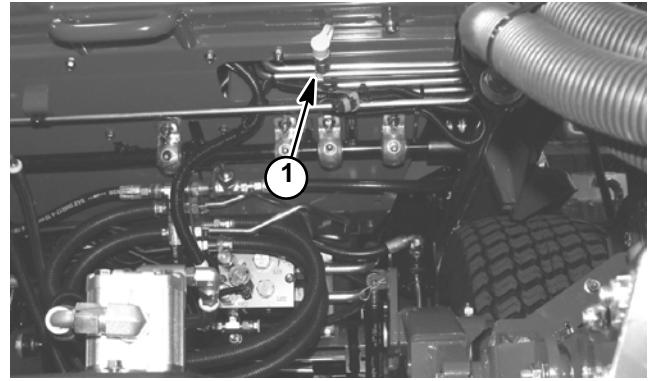

Figure 44
3. Connect a 5000 PSI (350 bar) pressure gauge onto steering circuit pressure test port (Fig. 44).